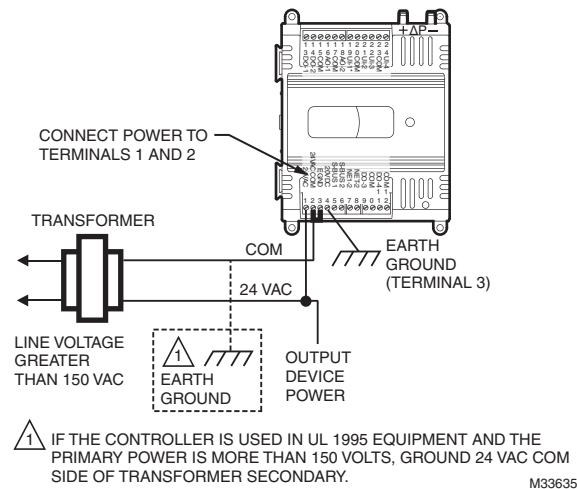

Fig. 9. Transformer power wiring details for one controller used in UL 1995 equipment (U.S. only).
- If the controller is used on **Heating and Cooling Equipment (UL 1995, U.S. only)** and the transformer primary power is more than 150 volts, connect terminal 2, (the 24 Vac common [24 VAC COM] terminal) to earth ground (see Fig. 9). For these applications, only one controller can be powered by each transformer.
- If a controller is used on Heating and Cooling Equipment (UL 1995, U.S. only) and transformer primary power is more than 150 volts, connect the transformer secondary common to earth ground (see Fig. 9 on page 6).